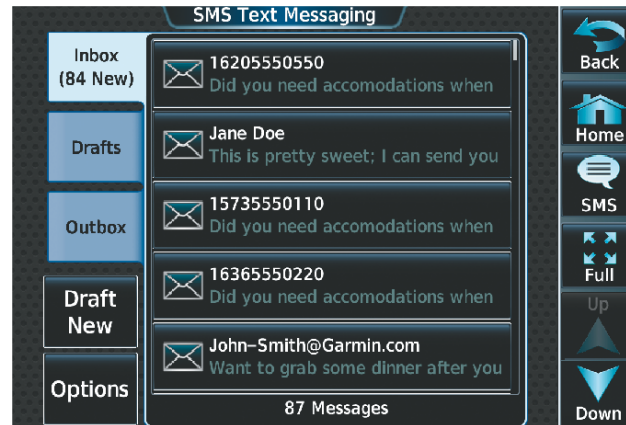

Figure 8-89 SMS Text Inbox
- 2) Touch the **Inbox** Tab. A list of received messages is displayed as in Figure 8-89. The **Inbox** Tab is selected by default when accessing the SMS Text Messaging Screen.